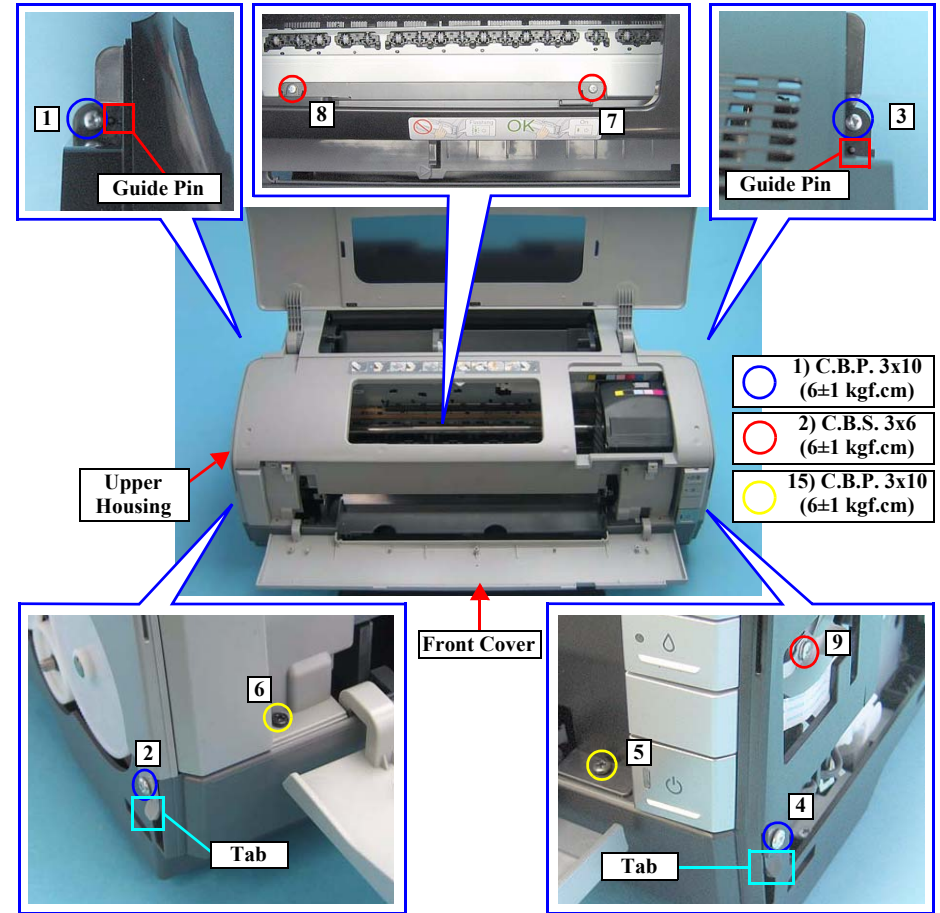

Figure 4-147. Screws that Secure the Upper Housing
6. Remove the Guide Pins from the two tabs shown in Figure 4-147, and remove the Upper Housing upwards.
- Align the Guide Pins with the positioning holes of the Upper Housing. See Figure 4-147.
- Tighten the screws in the order shown in Figure 4-147.